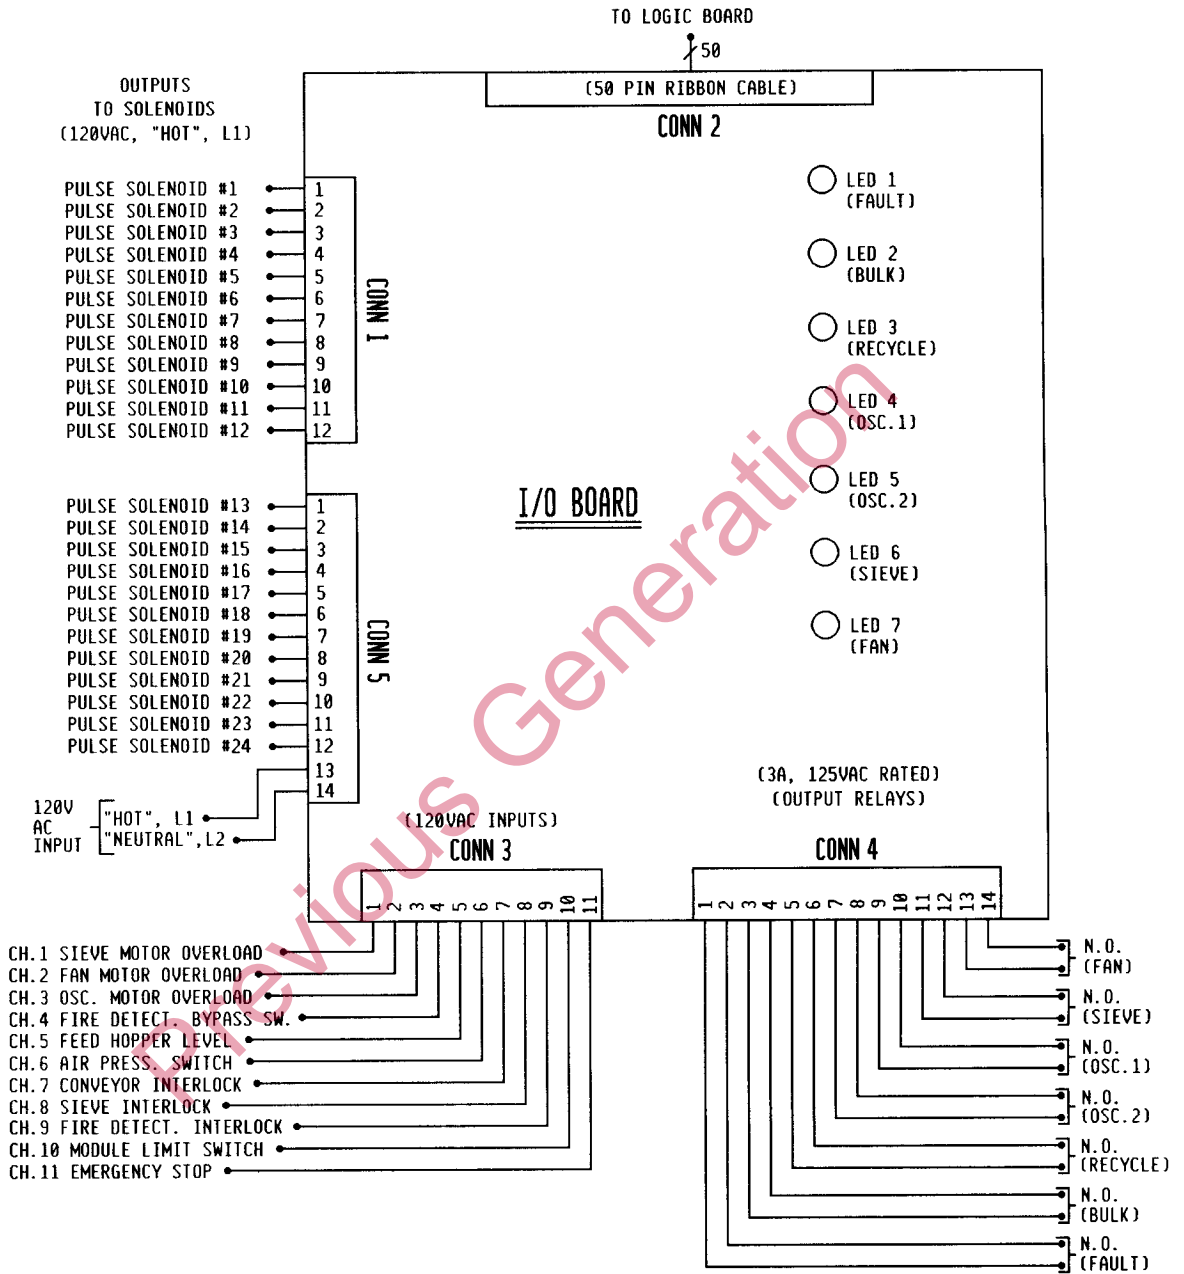

Figure 2-6 — I/O Board Connector Diagram
*Note: The functions of these indicators correspond to the I/O channels terminating at I/O board connector J3. Refer to Figure 2-6.*
*Note: The functions of these indicators correspond to the I/O channels terminating at connector J4. Refer to Figure 2-6.*